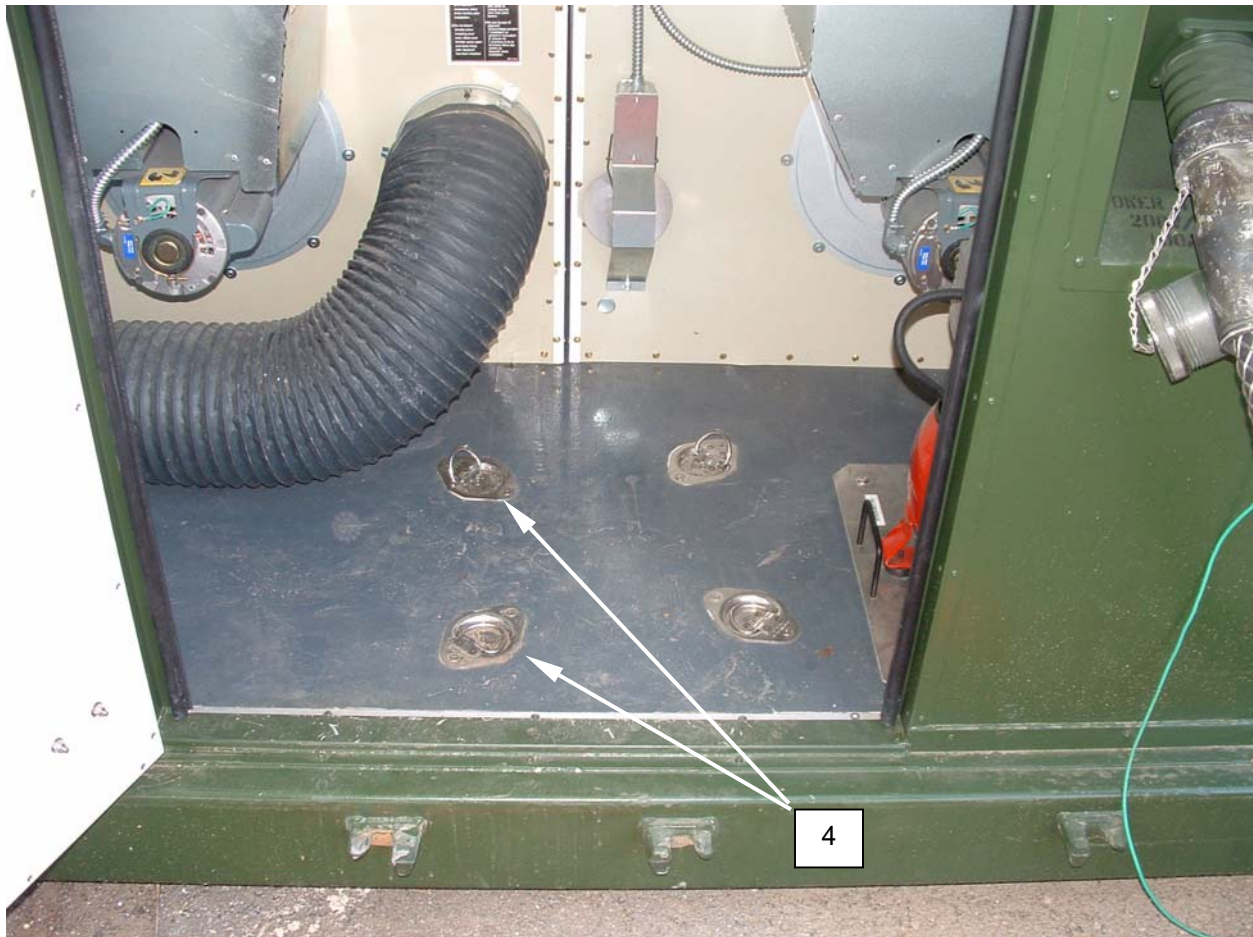

Figure 12. Pack the Footlocker in the CBL.
1. Locate the four D-rings (**Figure 12, Item 4**) in the dryer side CBL deck. Flip the inside D-rings up.